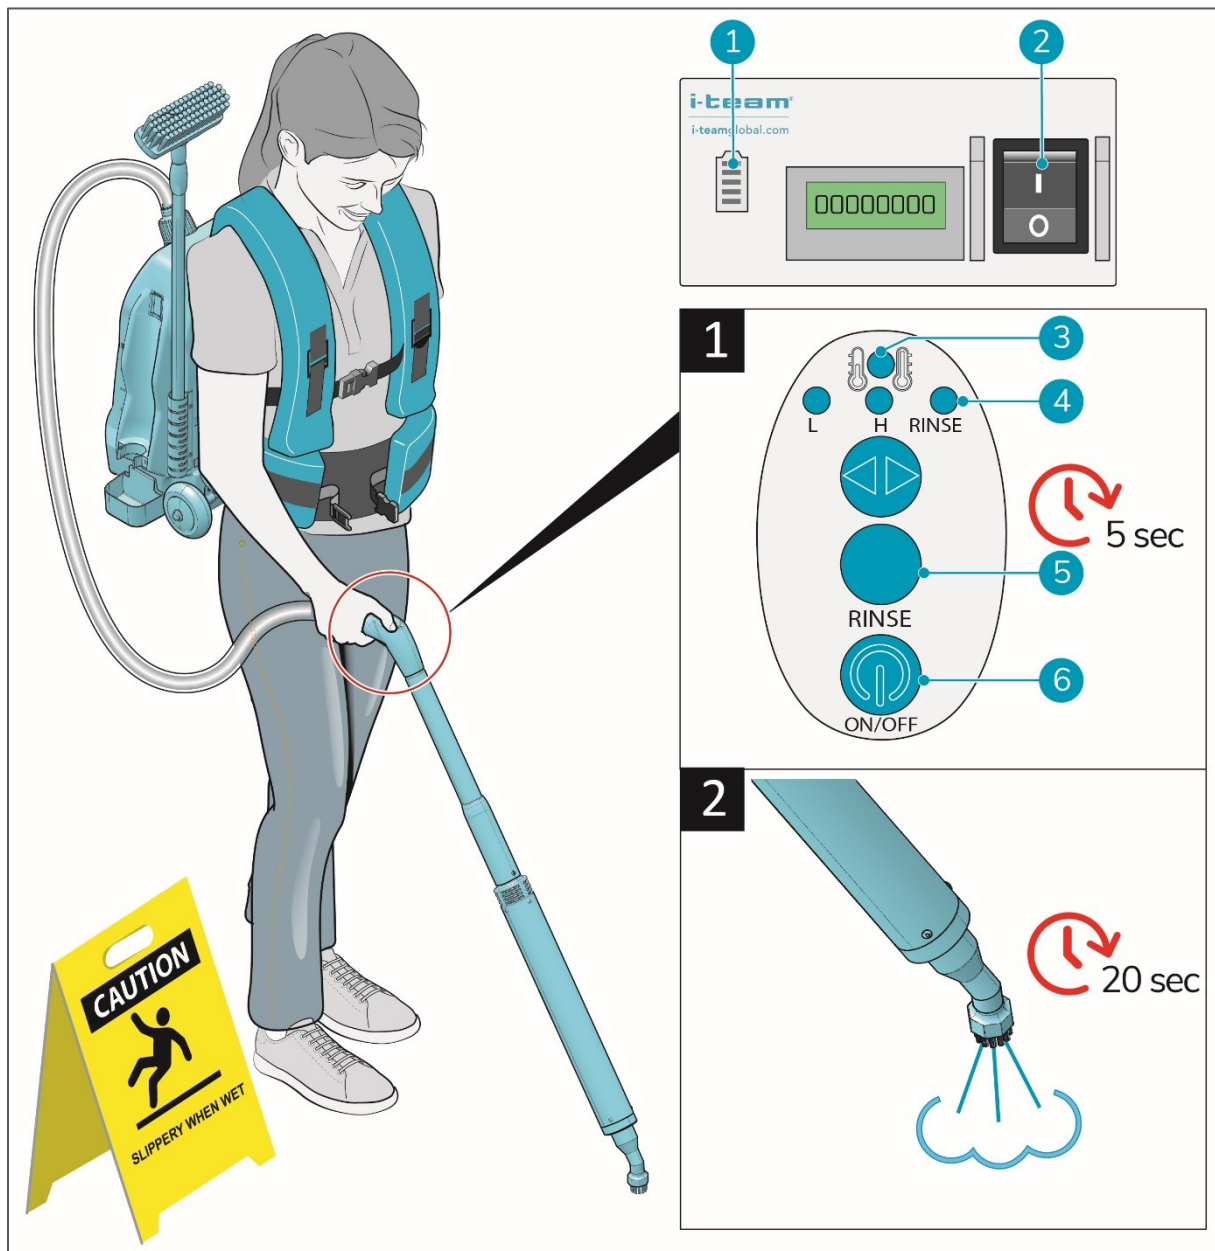

Figure 17
1. Turn on the i-gum[®] using the main power switch on the bottom (fig 17, pos 2) left of the body.
2. Check the power indicator (fig 17, pos 1).
9. Press the ON/OFF button (fig 17, pos 6) on the handle control.
10. Press the RINSE button (fig 17, pos 5).
12. Check the rinse indicator light (fig 17, pos 4).
13. Release the RINSE button (fig 17, pos 5) when rinse indicator light is on.
15. Check the heating indicator light (fig 17, pos 3).